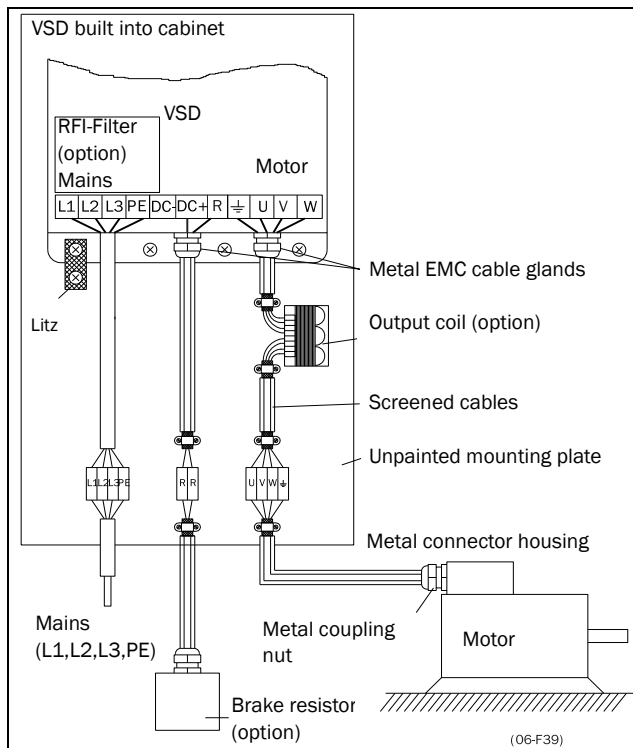

Fig. 23 Variable speed drive in a cabinet on a mounting plate
- The litz ground connection see fig. 23, is only necessary if the mounting plate is painted. All the variable speed drives have an unpainted back side and are therefore suitable for mounting on an unpainted mounting plate.
If the motor cables are to be interrupted by maintenance switches, output coils, etc., it is necessary that the screening is continued by using metal housing, metal mounting plates, etc. as shown in the Fig. 23.
cabinet, the internal wiring must comply with the EMC standard. Fig. 23 shows an example of a VSD built into a cabinet.